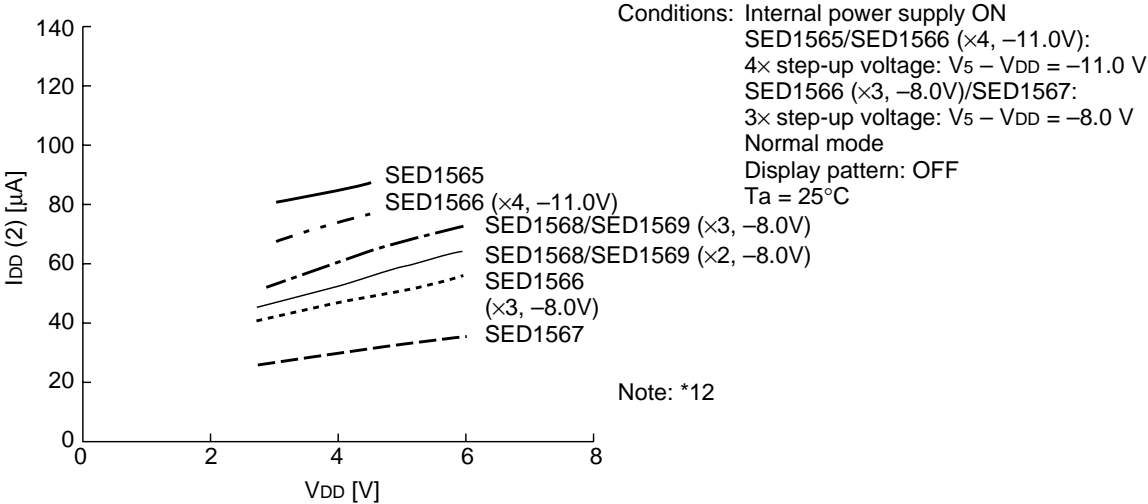

Figure 33
- *2 The operating voltage range for the V_{DD} system and the V₅ system is as shown in Figure 33. This applies when the external power supply is being used.
- *3 The A0, D0 to D5, D6 (SCL), D7 (SI), RD (E), \overline{WR} (R/W), $\overline{CS1}$, CS2, CLS, CL, FR, M/S, C86, P/S, \overline{DOF} , \overline{RES} , IRS, and \overline{HPM} terminals.
- *5 The A0, RD (E), \overline{WR} (R/W), $\overline{CS1}$, CS2, CLS, M/S, C86, P/S, \overline{RES} , IRS, and \overline{HPM} terminals.
- *6 Applies when the D0 to D5, D6 (SCL), D7 (SI), CL, FR, and DOF terminals are in a high impedance state.
- *7 These are the resistance values for when a 0.1 V voltage is applied between the output terminal SEG_n or COM_n and the various power supply terminals (V₁, V₂, V₃, and V₄). These are specified for the operating voltage (3) range.